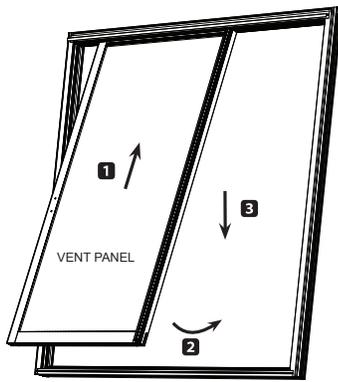

FIG. 9
3. The slider panel will have the bottom rollers attached from the factory to the bottom rail. Lift and tilt the vent panel and insert it into the interior of the head . (Fig. 9)